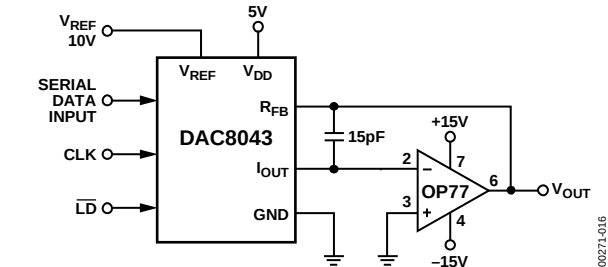
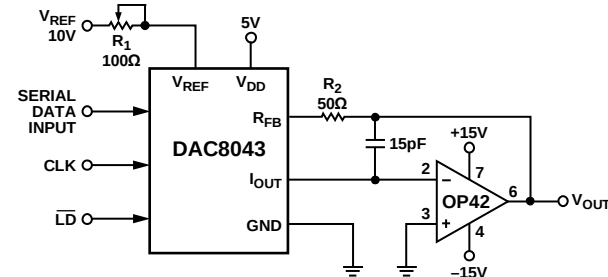
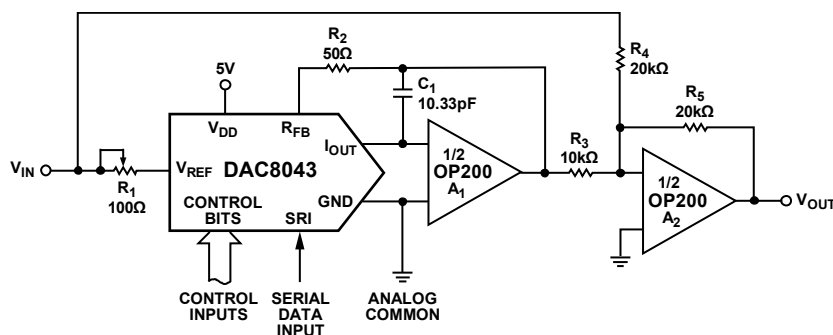

Figure 16. Unipolar Operation with High Accuracy Op Amp (2-Quadrant)
Figure 17. Unipolar Operation with Fast Op Amp and Gain Error Trimming (2-Quadrant)
Figure 19. Bipolar Operation (4-Quadrant, Offset Binary)
1. Phase compensation (see Figure 16 and Figure 17).
In most applications, linearity depends upon the potential of the I_{OUT} and GND pins being equal to each other. In most applications, the DAC is connected to an external op amp with its noninverting input tied to ground (see Figure 16 and Figure 17). The amplifier selected should have a low input bias current and low drift over temperature. The amplifier's input offset voltage should be nulled to less than 200 μV (less than 10% of 1 LSB).
The circuits shown in Figure 16 and Figure 17 may be used with an ac or dc reference voltage. The output of the circuit ranges between 0 V and approximately -V_{REF} (4095/4096), depending upon the digital input code. The relationship between the digital input and the analog output is shown in Table 6. The limiting parameters for the V_{REF} range are the maximum input voltage range of the op amp or ±25 V, whichever is lowest.
Gain error may be trimmed by adjusting R₁, as shown in Figure 17. The DAC register must first be loaded with all 1s. R₁ may then be adjusted until V_{OUT} = -V_{REF} (4095/4096). In the case of an adjustable V_{REF}, R₁ and R₂ may be omitted, with V_{REF} adjusted to yield the desired full-scale output.
¹ Nominal full scale for Figure 16 and Figure 17 circuits is given by
² Nominal LSB magnitude for Figure 16 and Figure 17 circuits is given by
Figure 19 details a suggested circuit for bipolar, or offset binary, operation. Table 7 shows the digital input to analog output relationship. The circuit uses offset binary coding. Two's complement code can be converted to offset binary by software inversion of the MSB or by the addition of an external inverter to the MSB input.
¹ Nominal full scale for Figure 19 circuits is given by
² Nominal LSB magnitude for Figure 19 circuits is given by
The transfer function for the DAC8043 connected in the multiplying mode, as shown in Figure 16, Figure 17, and Figure 19, is